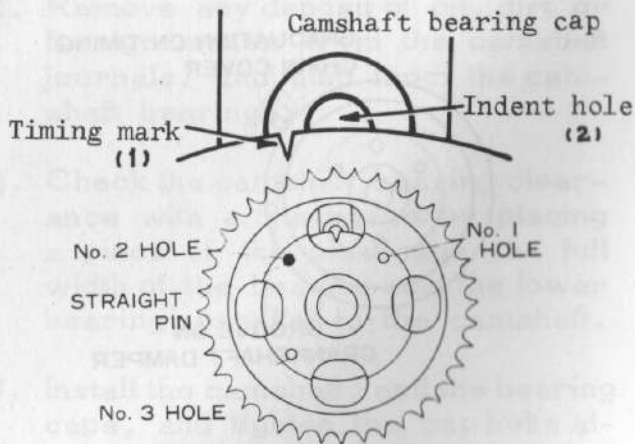

Fig. 2-78 Adjustment X5808
4. If the timing mark (1) is off the mark counterclockwise, adjust the chain as shown figure 2-78 above. Remove the camshaft gear attaching bolt, which is left-hand threaded, from the camshaft. Then rotate the camshaft gear on the camshaft clockwise until the straight pin on the camshaft flange fits in the No. 2 straight pin hole in the camshaft gear.